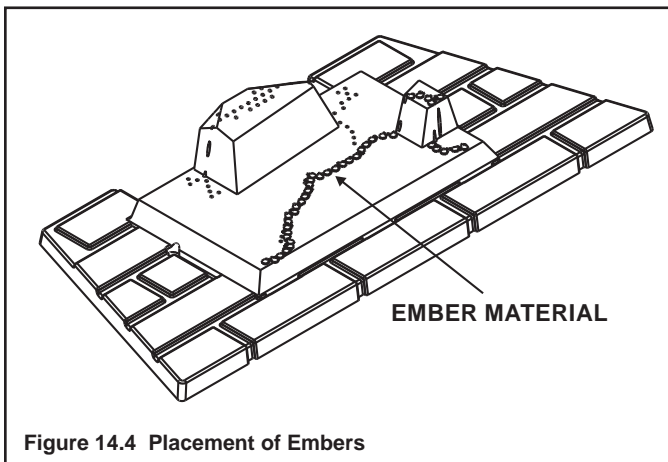

Figure 14.4 Placement of Embers
- Place dime-size pieces of Glowing Embers® just in front of the port trail, but not on or in between the ports (see Figure 14.4). Care should be taken so that the ports are not covered. Failure to follow this procedure will likely cause lighting and sooting problems.